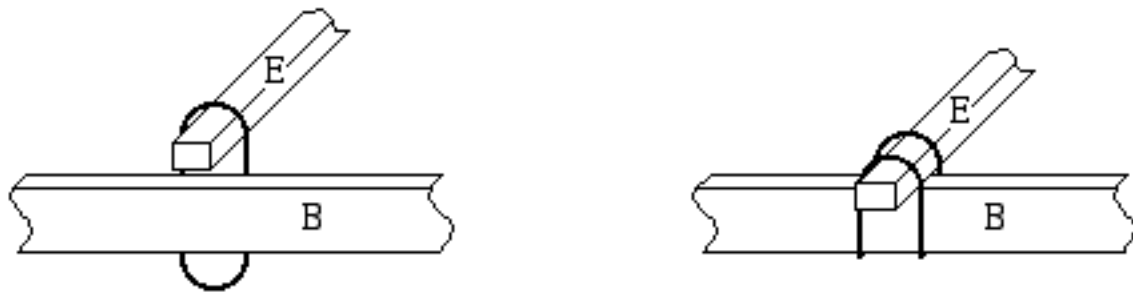

Figure 11 Attachment of Roof Slats with Rubber Bands
14. Place the 4 E pieces across the roof from side to side. The ends can be secured with the elastic bands provided (Fig. 11). If E pieces are too short, you have your sides inside-out. See Step 4. NOTE: elastic bands will need to be replaced each year. If you prefer, the E pieces can be tied with string or left unattached. Do not attempt to nail these pieces to the roof.